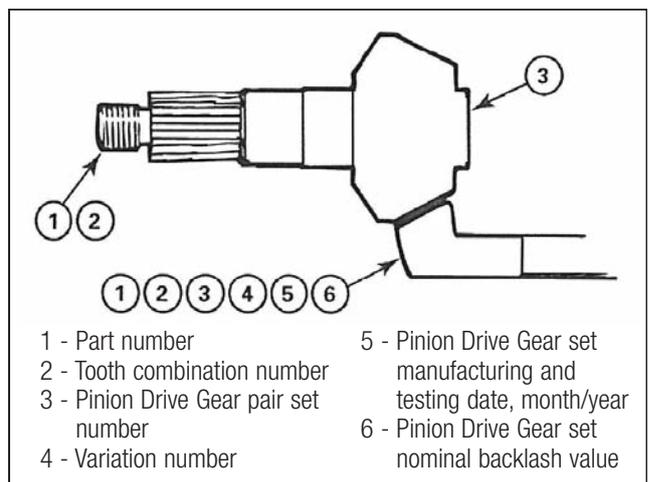
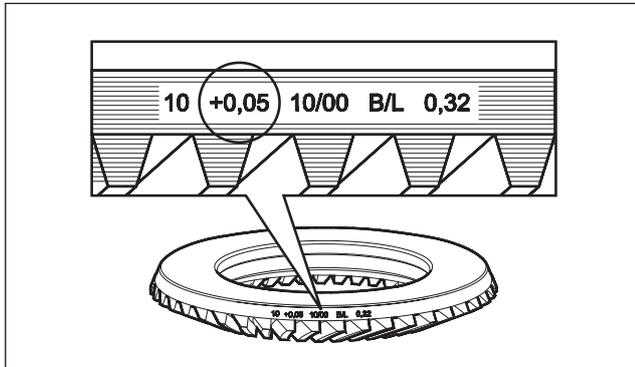

Fig. 2.43
Fig. 2.44
2. Find the pinion cone (PC) variation number on the drive pinion you'll replace. Fig. 2.43 and Fig. 2.44